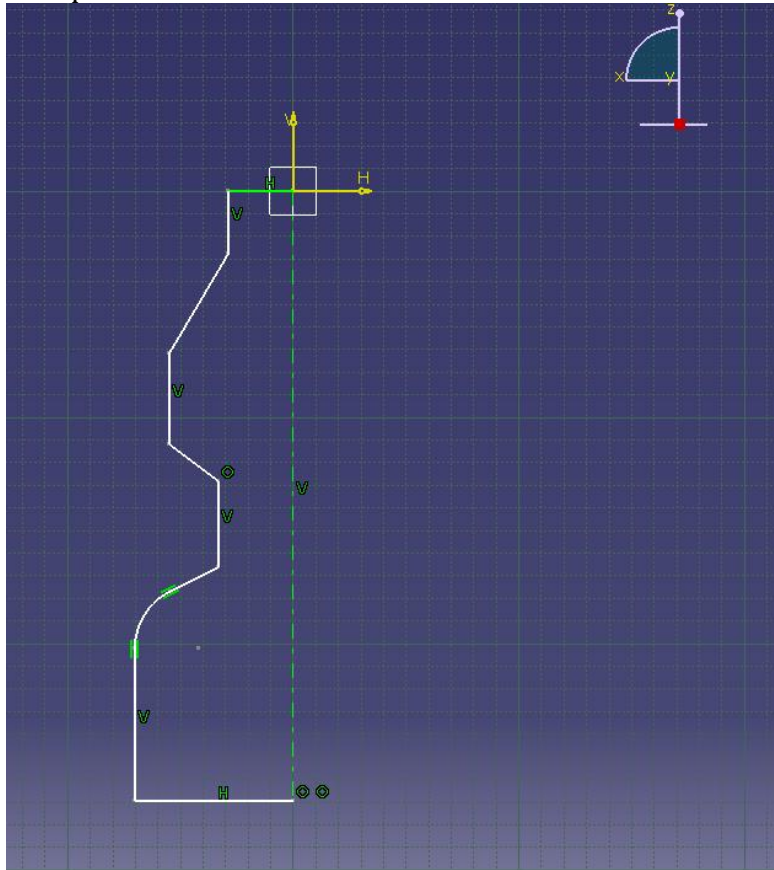

Figure 1. General idea of how to start the part
- c. Starting at the origin draw half the part into the negative Z direction as seen in Figure 1. Don't forget to add the center line. Copy the dimensions from the drawing on the website.